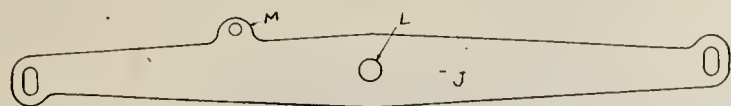

FIG. 3—DEVICE FOR REGULATING THE BRAKING POWER OF CARS.
Cross-heads D and E have each a pin (I) which engages levers J and K. Levers J and K are identical, except they are reversed when applied. The detail of lever J, shown in figure 3, will help to make clear their construction.